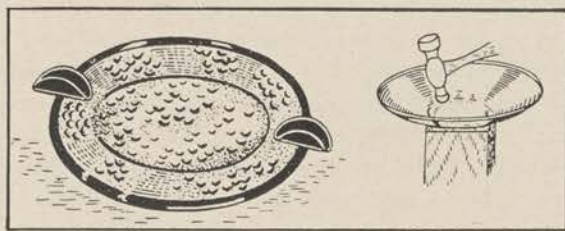

Figure 97.
d. Mark on the tin circle which is to be the flat bottom of the tray. Place the mold in a vise and hold the tin over the hollow depression in its end. Using the round end of the ball pein hammer, tap lightly along the edge of the circle marked on the tin. You will have to move the tray as you work to keep the area being hammered over the mold. Do not hammer inside the circle, or the bottom will be rounded instead of flat. Work only around the edge until the tray has taken its finished form (fig. 97).